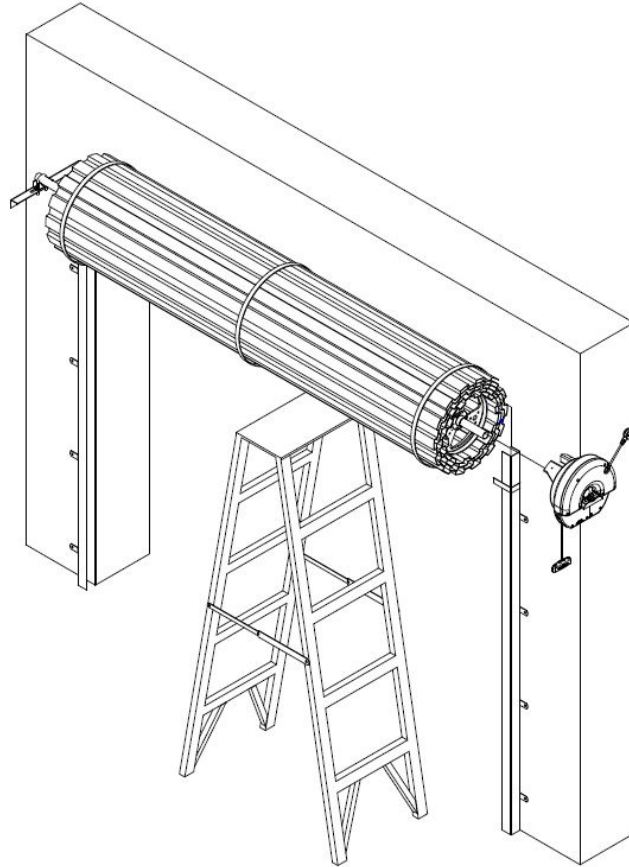

Fig: 3
- e) Make sure the door supporting prop is secure. While the door is supported remove the right hand wall mount bracket.(Fig. 3)